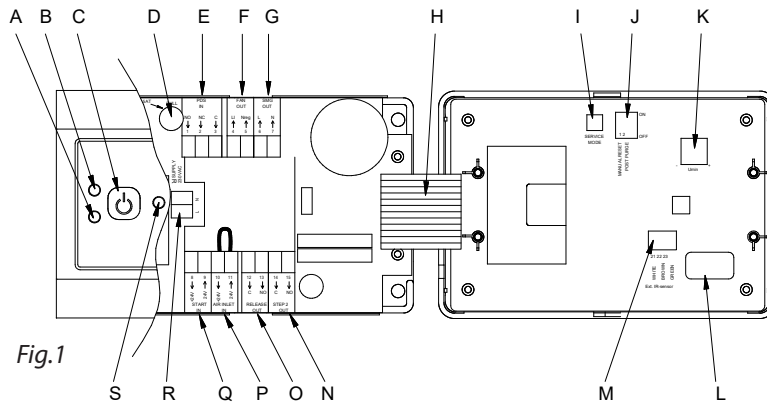

Fig.1
Check the factory-set DIP switch setting before commissioning (Fig. 1-J).
- Press ON/OFF button (Fig. 1-C).
- Press the service mode button (Fig. 1-I) on the back of the cover. Alarm LED (Fig. 1-A) will flash RED, and the operating LED (Fig. 1-B) will flash according to the position of the pressure switch – see the table below:
- The potentiometer (Fig. 1-K) is set to maximum by turning clockwise.
- Slowly increase the pressure switch setting until it cuts out (you will hear a click) or until the operating LED (Fig. 1-B) changes from GREEN to RED.